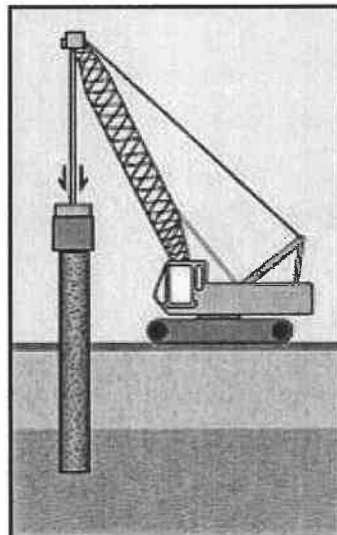

FIGURE 6.4
6.4 FIGURE 6.4 below shows a pile being driven into the ground.